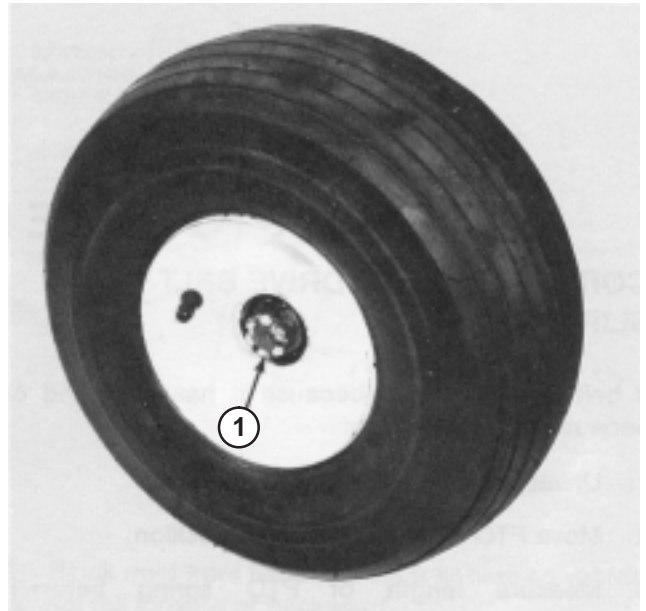

Figure 45
2. Remove dust cap from end of wheel spindle. Also remove cotter pin retaining slotted nut in place (Fig. 45).